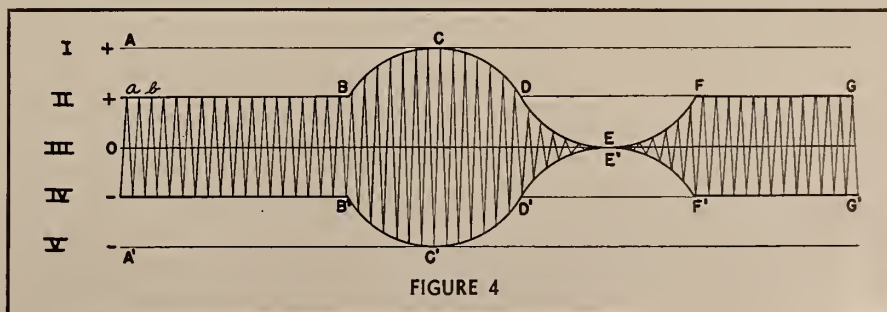

FIGURE 4
Let us note also that since the voltage of the AC generator has a sine wave form, the peak positive voltage and the peak negative voltage occur for extremely short intervals of time—called instantaneous. The time required for the conditions described in the above two paragraphs to take place is one-thousandth of a second. However, during this time the carrier generator has produced one thousand waves, each one with a slightly different amplitude than the preceding one, sometimes slightly greater, sometimes slightly less. Fig. 4 shows these conditions.
In Fig. 4, the waves represented from A to B form the unmodulated carrier, the same as Fig. 1. From *a* to *b* represents one wave of the carrier. The carrier positive amplitude is measured between lines II and III, the negative amplitude peak between lines IV and III. The effect of the addition of the voltage from the alternating current generator is shown beginning at B, the dash line B to C to D to E to F showing the combined DC power supply and AC generator voltages.
The pattern from B to F represents one cycle of the AC generator voltage, which takes place during one one-thousandth of a second. (Note that if space permitted drawing Fig. 4 realistically instead of only symbolically, the space between B and F would have one thousand waves drawn in instead of the few that the figure shows.) From F to G the carrier again is unmodulated.
In Fig. 4 carrier power is increased from B to C to D, but it is decreased in the same pattern from D to E to F. If we were to turn the pattern of the increase around, we can see that it would exactly fill in the decrease D to E to F. If the carrier is averaged from B to F, its power is exactly the same as from A and B and unchanged.
In practice, therefore, the modulation "envelope"—the distance B to F in Fig. 4—does not normally present the smooth, sine wave form there
frequency response, a small condenser (about 0.002 microfarad) may be connected in shunt with the pickup, as shown in diagram A of Fig. 4. Such a condenser is called a "scratch-filter" because in slightly reducing the high-frequency response it decreases surface noise.
muffled too much. Diagram B of Fig. 4 shows the hookup.
Response curves of a popular make of crystal pickup reveal a slight unevenness in the bass response from 40 to 300 cycles. While these inequalities are almost too slight to matter, it is interesting to know that a simple equalizing circuit smooths them out to give a more uniform low-frequency response which conforms closely to the response of commercial disk records of good quality. Diagram C of Fig. 4 illustrates the compensating circuit. Connect a 750-micromicrofarad condenser in series with the pickup "hot" lead, and shunt this condenser with a 750,000-ohm resistor.
FIG. 4. Crystal-pickup circuit modifications. The use of a small condenser to filter out needle scratch or surface noise. (B) Improving bass response by adding a resistor to increase terminal impedance. (C) Conforming bass response to the characteristics of commercial phonograph records by means of a simple equalizing circuit.